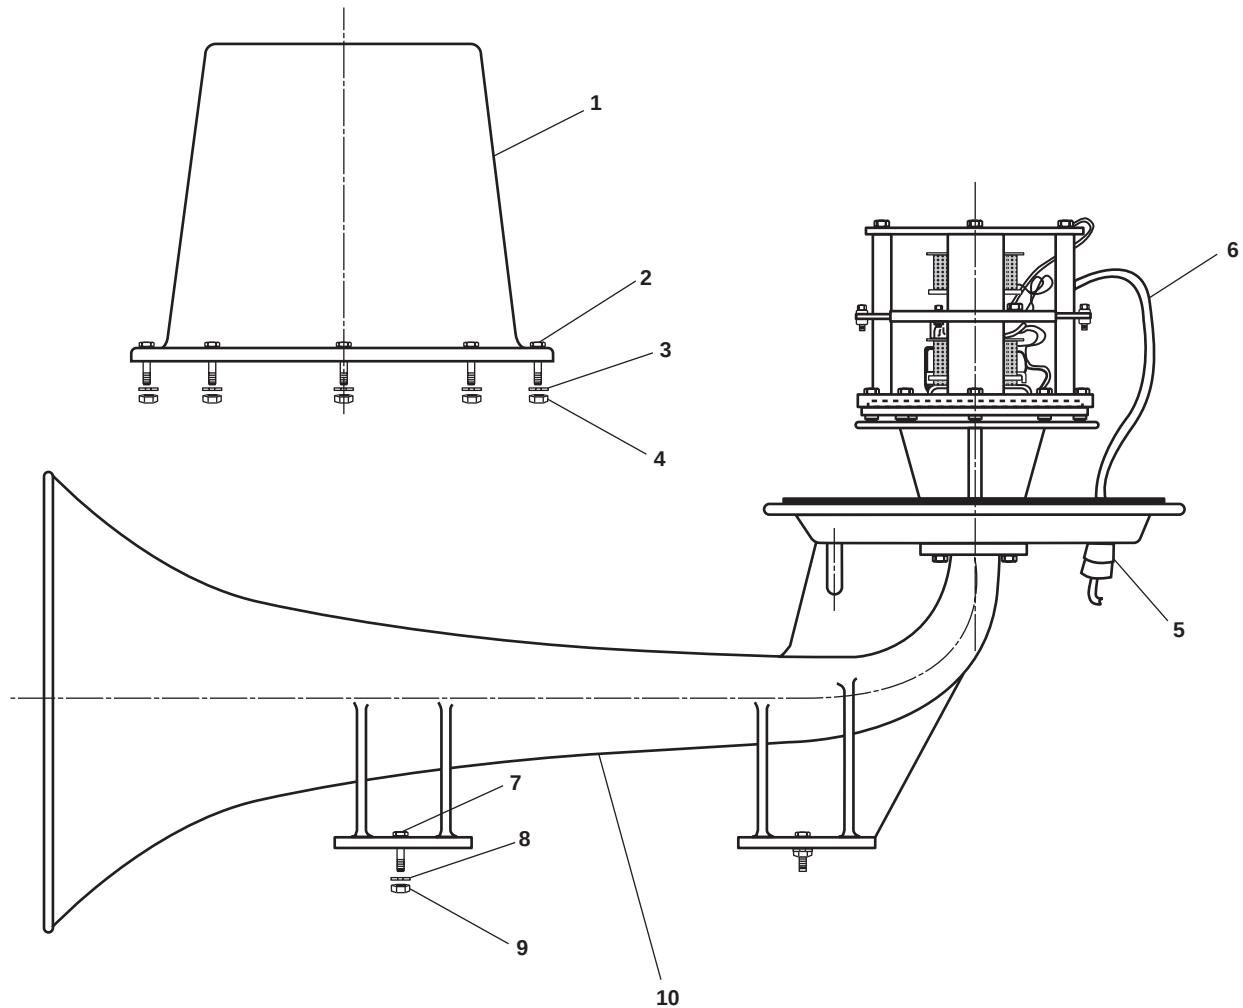

Figure 1. Signal Horn
1. Remove the housing top cover (figure 1, item 1) by removing the capscrews (figure 1, item 2), washers (figure 1, item 3), and nylock nuts (figure 1, item 4). Discard the nylock nuts.
2. Loosen the gland nut (figure 1, item 5), to relieve tension on the wiring (figure 1, item 6).
3. Use a multimeter to check for the presence of voltage at the wiring (figure 1, item 6). If voltage is present, verify that the correct circuit breaker is set to OFF, locked out, and tagged out (FM 55-502). If no voltage is present, continue with the procedure.
4. Label and remove the wiring (figure 1, item 6).
5. Remove the two bolts (figure 1, item 7), two lockwashers (figure 1, item 8), and two nuts (figure 1, item 9) that secure the horn assembly (figure 1, item 10). Discard the lockwashers.
6. Remove the horn assembly (figure 1, item 10) from its foundation.
1. Install the horn assembly (figure 1, item 10) and secure it with the two bolts (figure 1, item 7), two new lockwashers (figure 1, item 8), and two nuts (figure 1, item 9).
2. Connect the wiring (figure 1, item 6) using the labels from Removal step 4 as a guide. Remove the labels.
3. Install the housing top cover (figure 1, item 1) and secure it with the capscrews (figure 1, item 2), washers (figure 1, item 3), and new nylock nuts (figure 1, item 4).